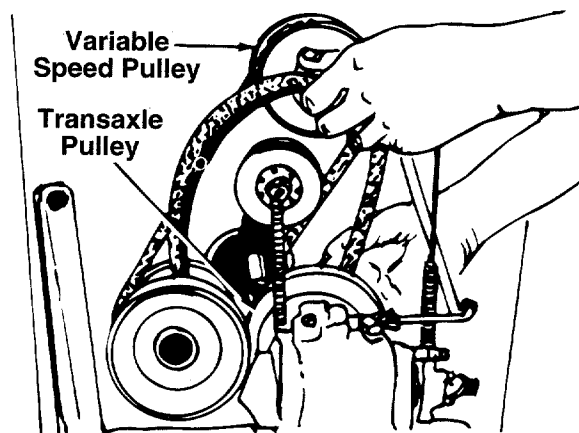

FIGURE 32.
6. Slip the "V"-belt off the variable speed pulley and transaxle pulley. See figure 32.